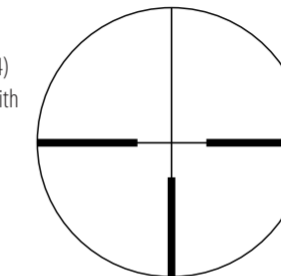
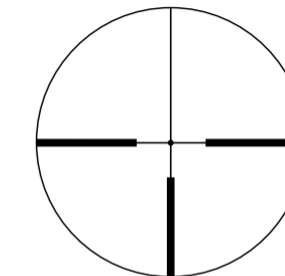

Fig. 3-1
Fig. 3-2
(1) Focusing
- Look through the eyepiece with your eye positioned about 10 cm (4 in) away from the eyepiece to see the #4 reticle (German 4) (Fig. 3-1) or Illuminated #4 reticle (German 4) with Dot (Fig. 3-2). Be sure your eye is positioned with proper alignment and with proper eye relief, otherwise the view will “black out.”